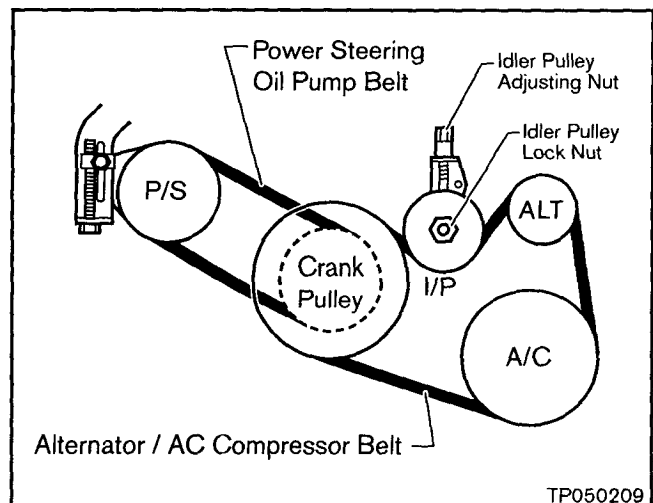

Figure 7
- a. Loosen the Idler Pulley Lock Nut (see Figure 7).
- b. Loosen the Idler Pulley Adjusting Nut (see Figure 7).